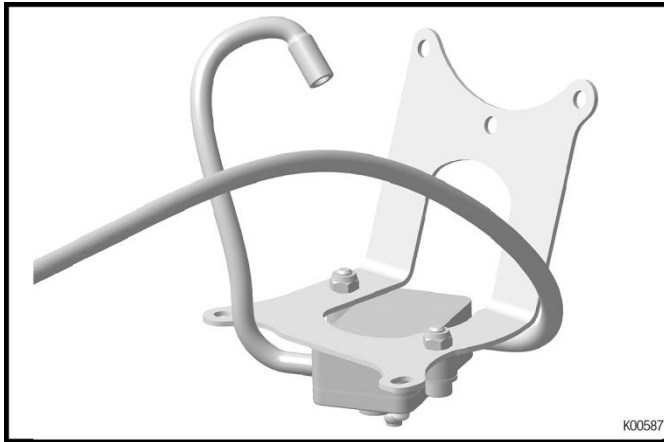

Fig. 1
- ➔ The retaining plate, rubber buffers, fuel pump, fuel hose (with 230 mm and 1800 mm length) are already pre-assembled. See Fig. 1.